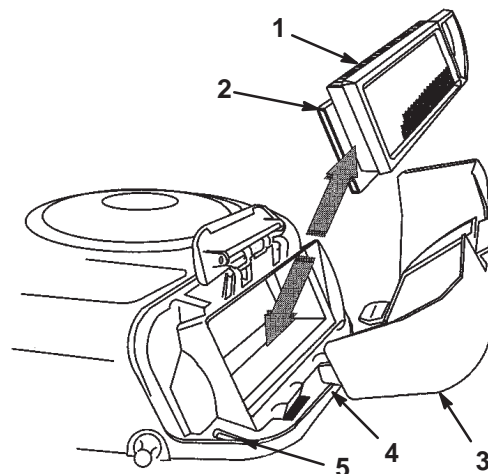

Figure 19
7. Carefully slide the paper element and foam element from the blower housing (Fig. 19).
2. Align the tabs on the air cleaner cover with the slots of the blower housing (Fig. 19). Hook the handle onto the cover and press down on the handle to lock the cover in place.